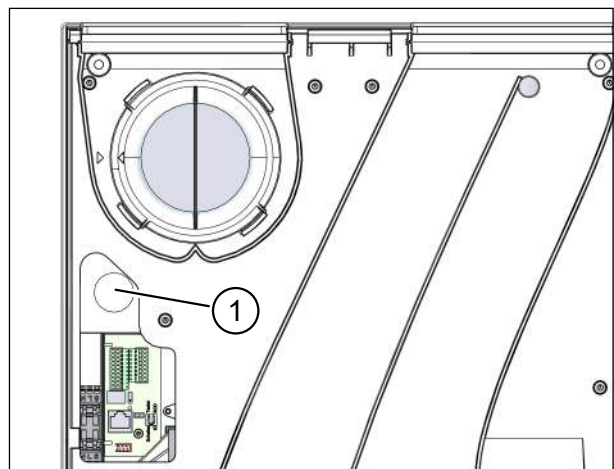

Fig. 36: Threading in the mains cable and control cable (if used)
- ▶ Thread the mains cable into the opening (item 1 in Fig. 36) on the ventilation unit and pull the cable through the opening.
- ▶ Thread the control cable (if used) into the opening (item 1 in Fig. 36) on the ventilation unit and pull the cable through the opening.
- ▶ Thread the control cable for the M-WRG-II O/EGG-AUS option (if used) into the opening (item 1 in Fig. 36) on the ventilation unit and pull the cable through the opening.